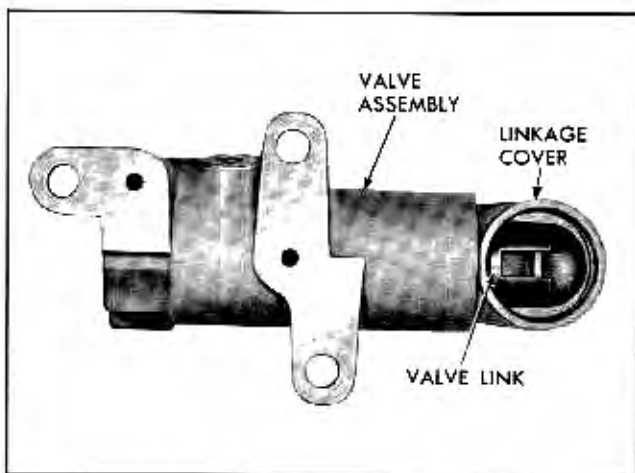

Fig. 9-62 Valve Assembly and Linkage Cover
1. Lubricate valve linkage cover "O" ring seal and install on linkage cover and assemble to control valve. Position valve link so that slot is perpendicular with bottom of valve assembly (Fig. 9-62).